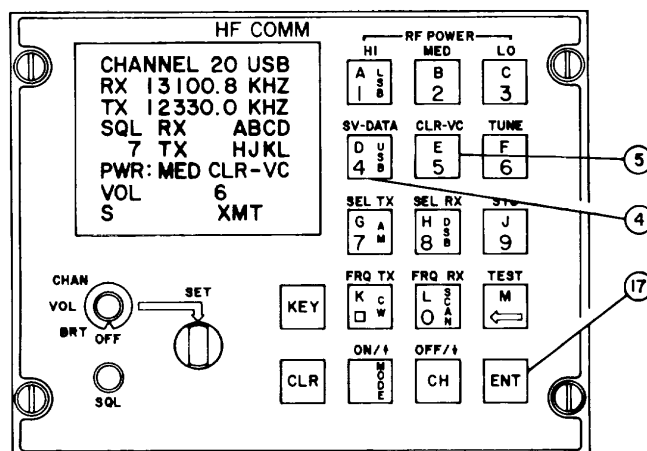

Figure 2-23. C-11245/U Modulation Source Selection, Controls
- d. **Modulation Source Selection.** Refer to figure 2-23. To select modulation source, press either SV-DATA pushbutton (4) or CLR-VC pushbutton (5), then press ENT pushbutton (17). The SV-DATA pushbutton selects the 600-ohm data input to the radio set (J9813), or the CLR-VC pushbutton selects the 150-ohm compressed audio input (J9812). The source selected appears in field 8 (figure 2-2), in inverse video when SV DATA or CLR-VC pushbutton is pressed, and returns to regular video when ENT pushbutton is pressed. For detailed information about secure voice (SV-DATA) operation, refer to paragraph 2-8.1.